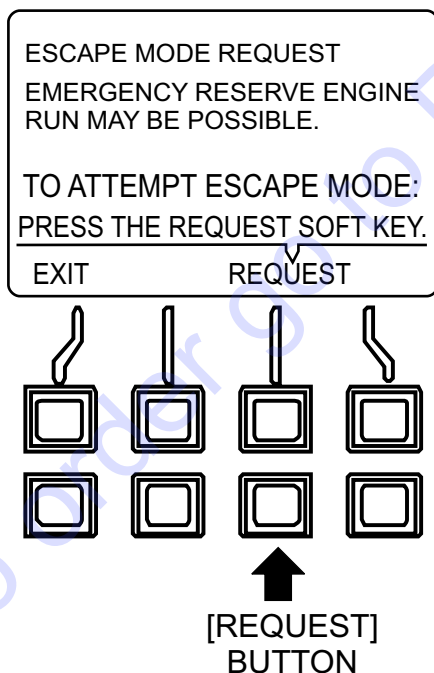

Figure 87. Escape Mode (Request Button)
- Press the **[REQUEST]** button (Figure 87) to send "Escape Mode Request" signal to ECM.